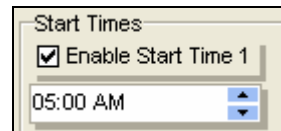

Figure 17.2.5
3. Check the box for each Start Time that you want to enable (Figure 17.2.5).